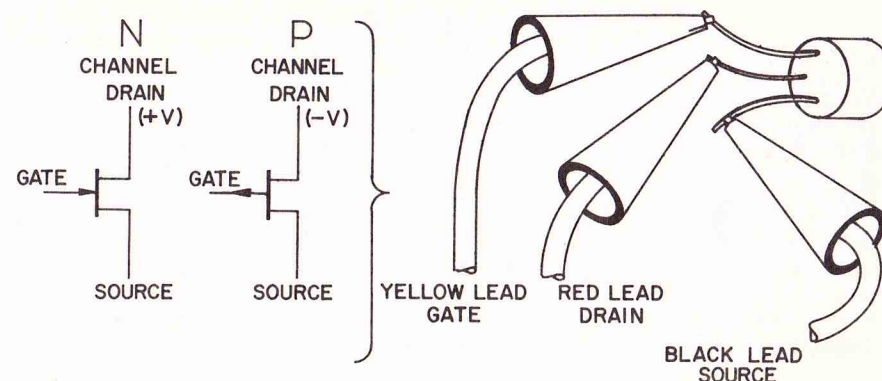

Figure 5. Connecting To A Field Effect Transistor For In-Circuit And Out Of Circuit Test
1. Connect the Source, Drain, and Gate leads as shown in figure 5 or 6. The blue lead is connected to the second gate of dual gate FETs. (See the section on dual gate field effect transistors when testing these devices).
4. Rotate the Gm ZERO control until the meter reads zero (0) and then depress the GAIN button and read the top scale of the meter directly in micromhos.